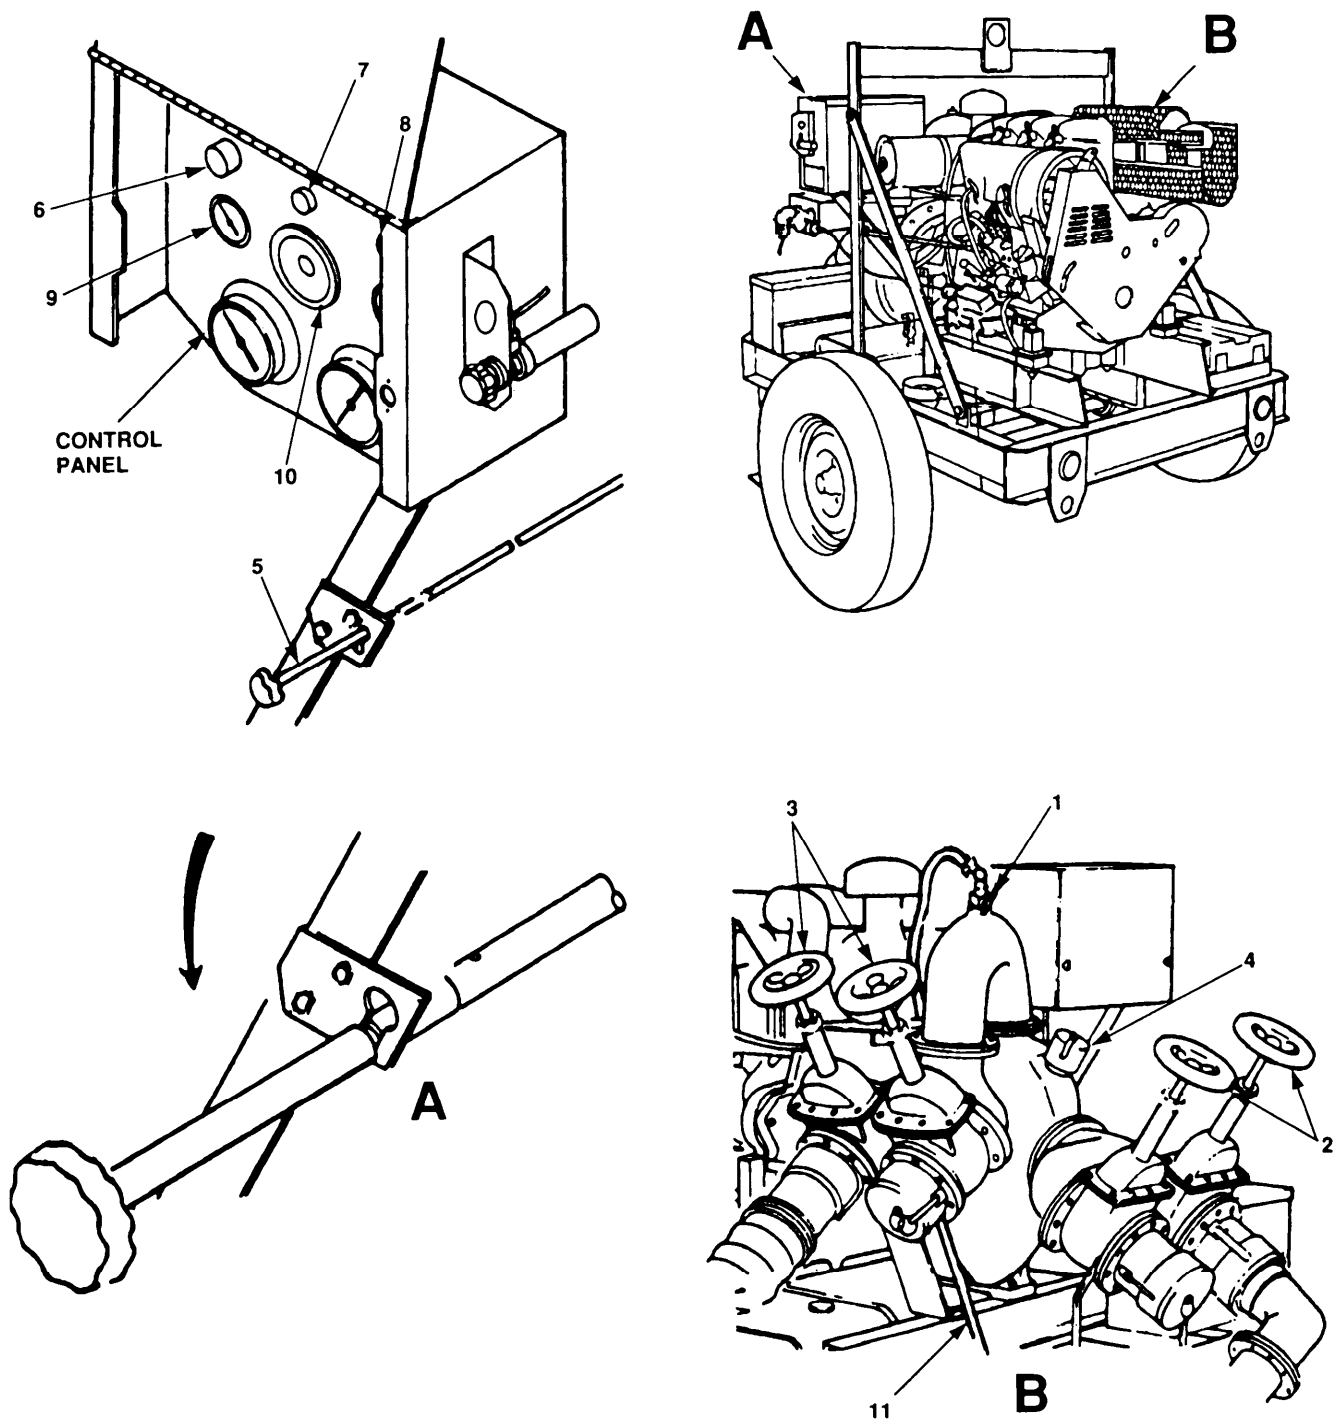

Figure 2-5. Pumping Assembly Operation (non-regulated) .
- a. Open vent valve (figure 2-5, 1) and ensure that all suction valves (2) and discharge valves (3) are closed.
- a. Decrease idle speed to 800 RPM then push and raise throttle control (figure 2-5, 5) from detent to idle speed for two minutes.
- b. Close discharge valves (3) and suction valve (2).
- c. Push in EMERGENCY STOP switch (6).
- (1) Press in on end of quick release pin and remove quick release pin from brackets at top of control panel and cover. Lower control panel cover.
- (2) Turn the fasteners on the control panel clockwise until the fasteners engage.